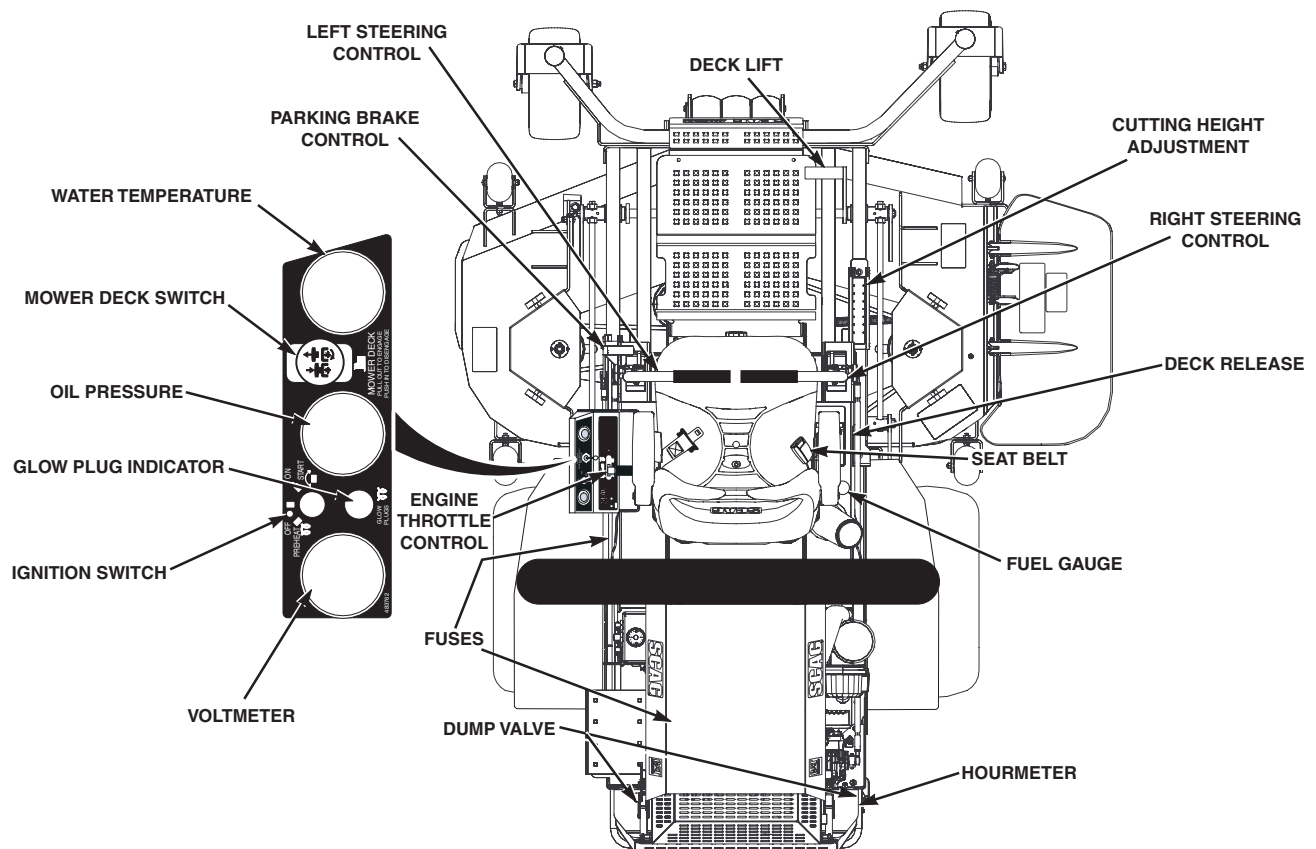

Figure 4-1. Controls and Instruments
1. **Ignition Switch (Figure 4-1).** The ignition switch is used to start the engine and has three positions; OFF, ON, and START
2. **Mower Deck Switch (Figure 4-1).** Used to engage and disengage the mower drive system. Pulling up on the switch will engage the deck drive. Pushing down on the switch will disengage the deck drive.
3. **Glow Plug Indicator (Figure 4-1).** Yellow indicator turns on when the key switch is turned to the PREHEAT position. Glow plugs must be preheated for 5 to 10 seconds before starting the engine.
4. **Engine Throttle Control (Figure 4-1).** Used to control the engine speed. Pushing the lever forward increases engine speed. Pulling the lever back decreases engine speed. Full back position is the IDLE position. Full forward is the cutting position.
5. **Voltmeter (Figure 4-1).** Indicates the condition of the charging system. When the engine is running, in normal operating conditions, the needle should be in the 12 to 14 volt range.
6. **Oil Pressure (Figure 4-1).** Indicates engine oil pressure. Reference the engine operator's manual for further information.
7. **Hour meter (Figure 4-1).** Indicates the number of hours the engine has been operated. It operates whenever the key is on. Has preset maintenance reminders for engine and hydraulic system oil changes. Will start flashing scheduled maintenance 2 hours before preset time and continue flashing until 2 hours after. Automatically resets.
8. **Fuse Holders (Figure 4-1).** There is one 20-amp fuse and one 50-amp resettable fuse that protects the mower's electrical system. To replace fuse, pull fuse out of the socket and install a new fuse.
9. **Left Steering Control (Figure 4-1).** Used to control the mower's left wheel when traveling forward or reverse.
10. **Right Steering Control (Figure 4-1).** Used to control the mower's right wheel when traveling forward or reverse.
11. **Parking Brake Control (Figure 4-1).** Used to engage and disengage the parking brakes. Pull the lever back to engage the parking brakes. Push the lever forward to disengage the parking brakes.
12. **Fuel Tank Gauge (Figure 4-1).** Indicates the amount of fuel in the fuel tank.
14. **Deck Lift Foot Lever (Figure 4-1).** Used to raise
15. **Cutting Height Adjustment (Figure 4-1).** Used to set the cutter deck at the desired cutting height.
16. **Deck Release Lever (Figure 4-1).** Used to lock the cutter deck in the transport position. Push the foot pedal forward and lift up on the release lever to release the cutter deck for normal mowing.
17. **Temperature Gauge (Figure 4-1).** Indicates the operating temperature of the engine.
18. **Seat Belt (Figure 4-1).** Used to secure the operator. Seat belt must be worn at all times when the ROPS is in the upright and locked position.